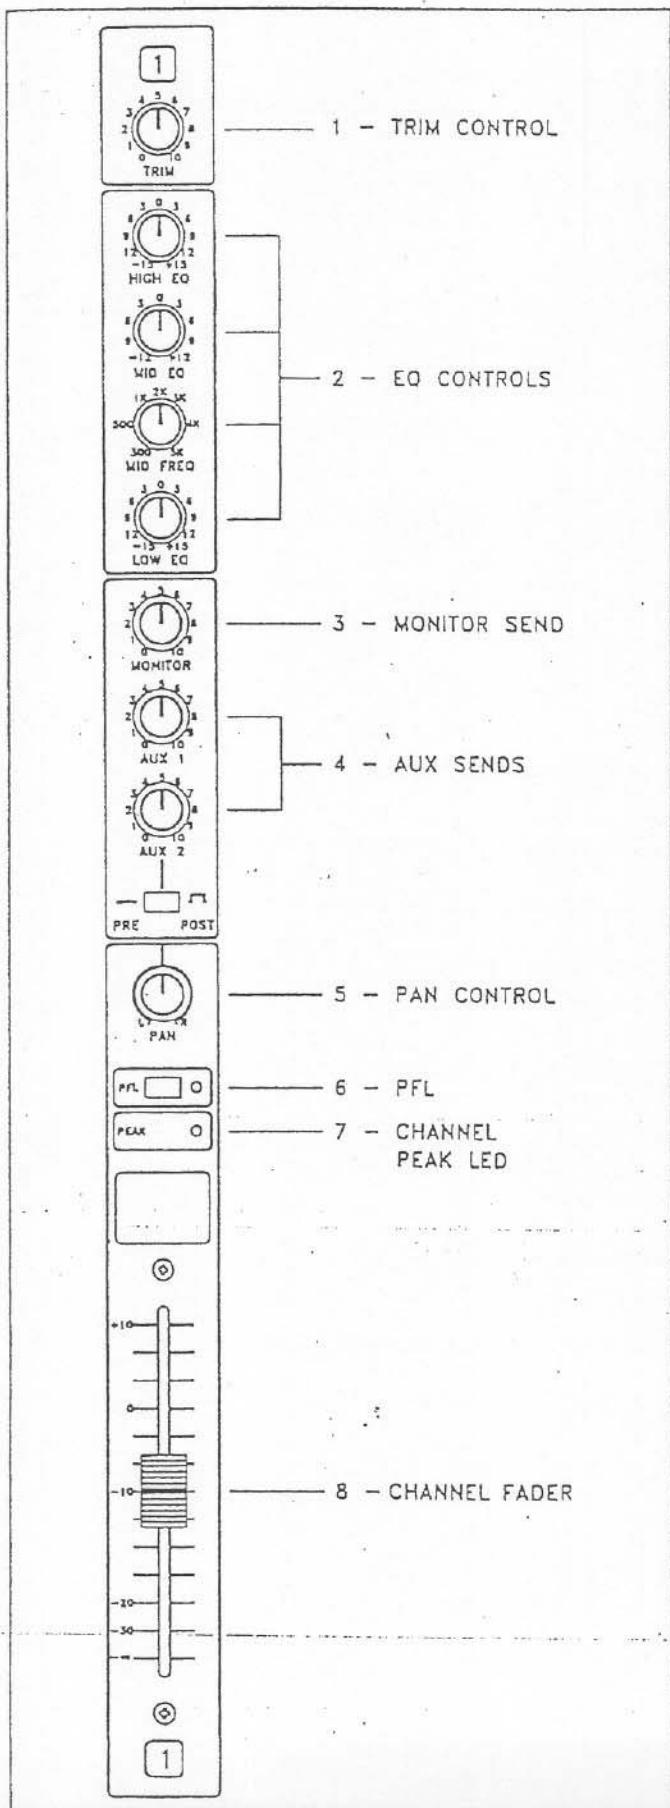
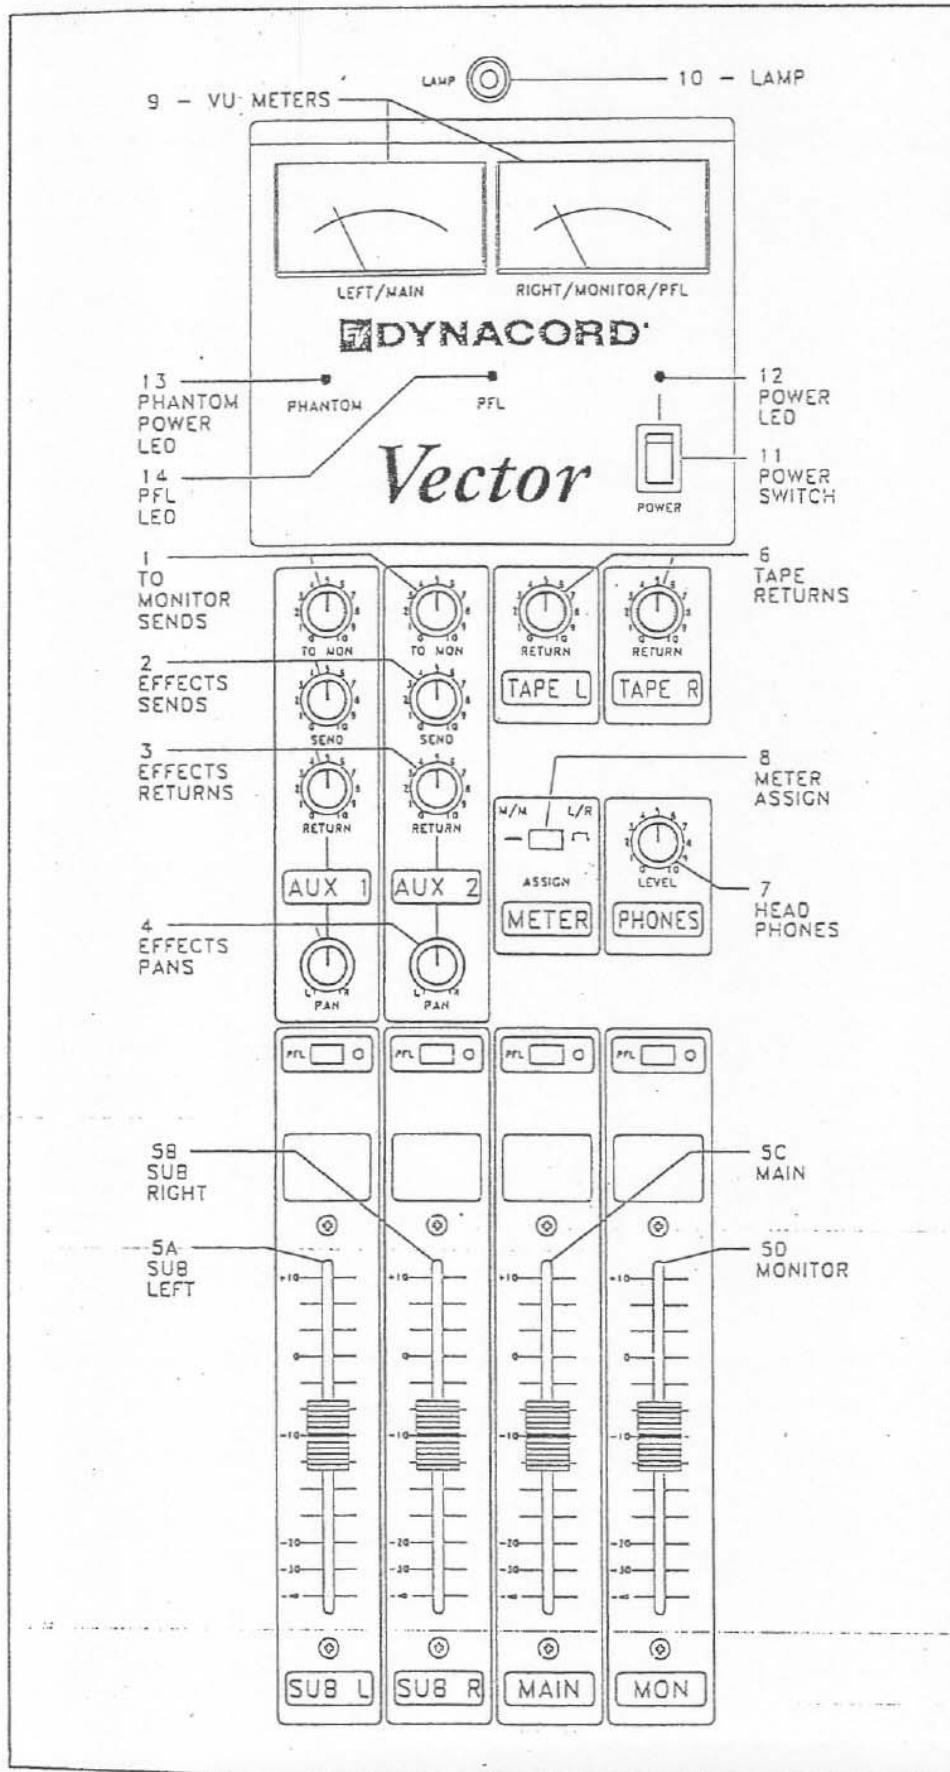

Figure 4: Input Channel Controls
Figure 5: Output Section Controls
3.1 Input Channel Controls (Refer to Figure 4)
input (1/4-inch phone jack). The line input will accept signals from an instrument, high-impedance microphone, tape/CD player, keyboard or electronic drums or almost any other audio source. Always make sure that the channel fader (see Figure 4) and/or master faders (see Figure 5) are down before plugging or unplugging input sources.
3.2 Output Section Controls (Refer to Figure 5.)